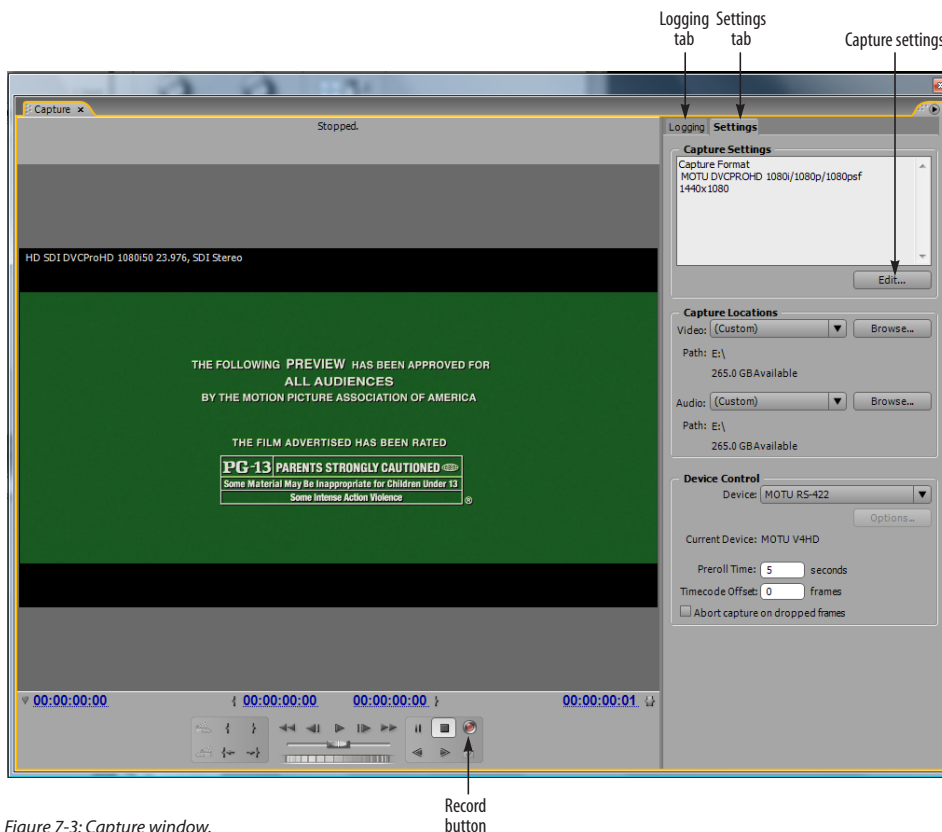
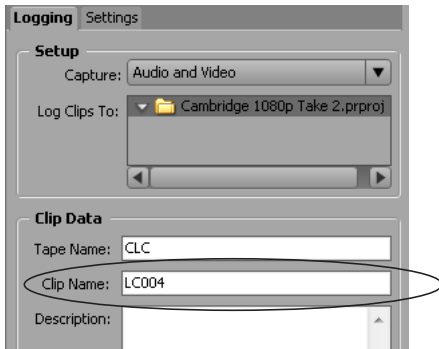
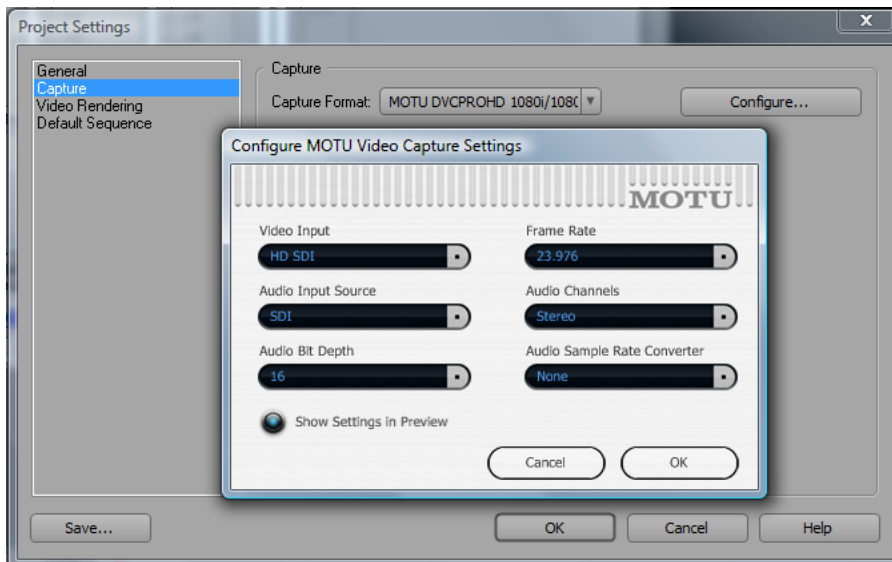

Figure 7-3: Capture window.
Figure 7-5: Be sure to name the clip before you capture.
Figure 7-4: Capture settings.
- 2 In Premiere Pro, choose *Capture* from the File menu to open the Capture window (Figure 7-3).
- 3 Click the Settings tab and click the Edit button (Figure 7-3) to access the Capture settings (Figure 7-4).
- 4 Refer to the following sections for information about the Capture settings in Figure 7-4.
- 5 Click the *Logging* tab (Figure 7-3) and name the clip (Figure 7-5).
6 Click the Record button (Figure 7-3) to start capturing.
Choose the desired video input on the V4HD from the Video Input menu (Figure 7-4). This is the physical input on the interface that you wish to capture from, and it is the same setting as the *Source* menu in MOTU Video console (Figure 6-3
Choose the desired video frame rate from the Frame Rate menu (Figure 7-4). Make sure this setting matches your project frame rate.
The V4HD supports both 16-bit and 24-bit audio capture and playback. Choose the desired format from the Audio bit depth menu (Figure 7-4).